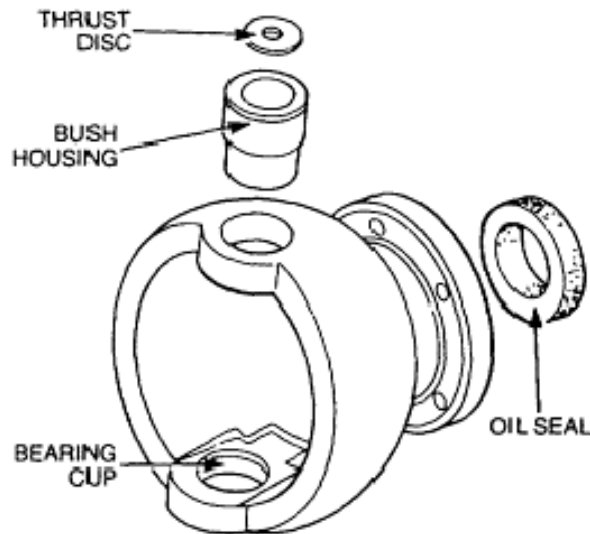

Figure 101 Bearing Housing Disassembly
- Remove the oil seal from the bearing housing (Figure 101).
- e. Press the oil seal into the bearing housing, plain side first (Figure 101).